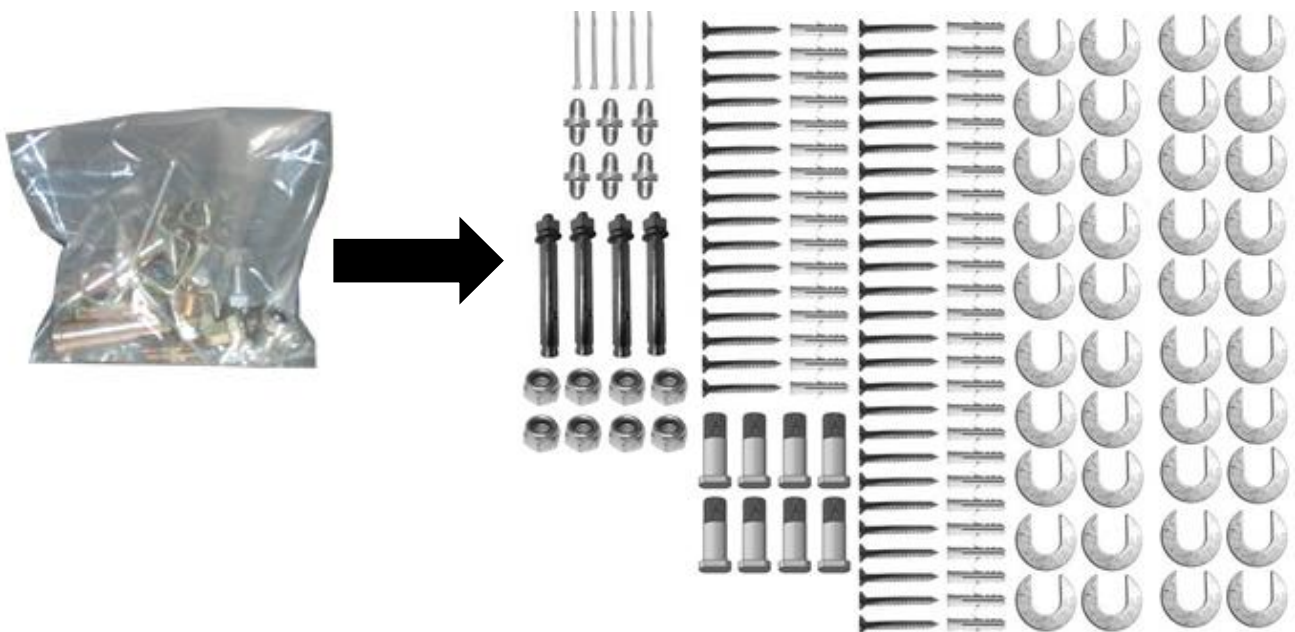

Fig. 7
4. Check the parts of the parts bag according to the parts bag list (**See Fig. 7**).